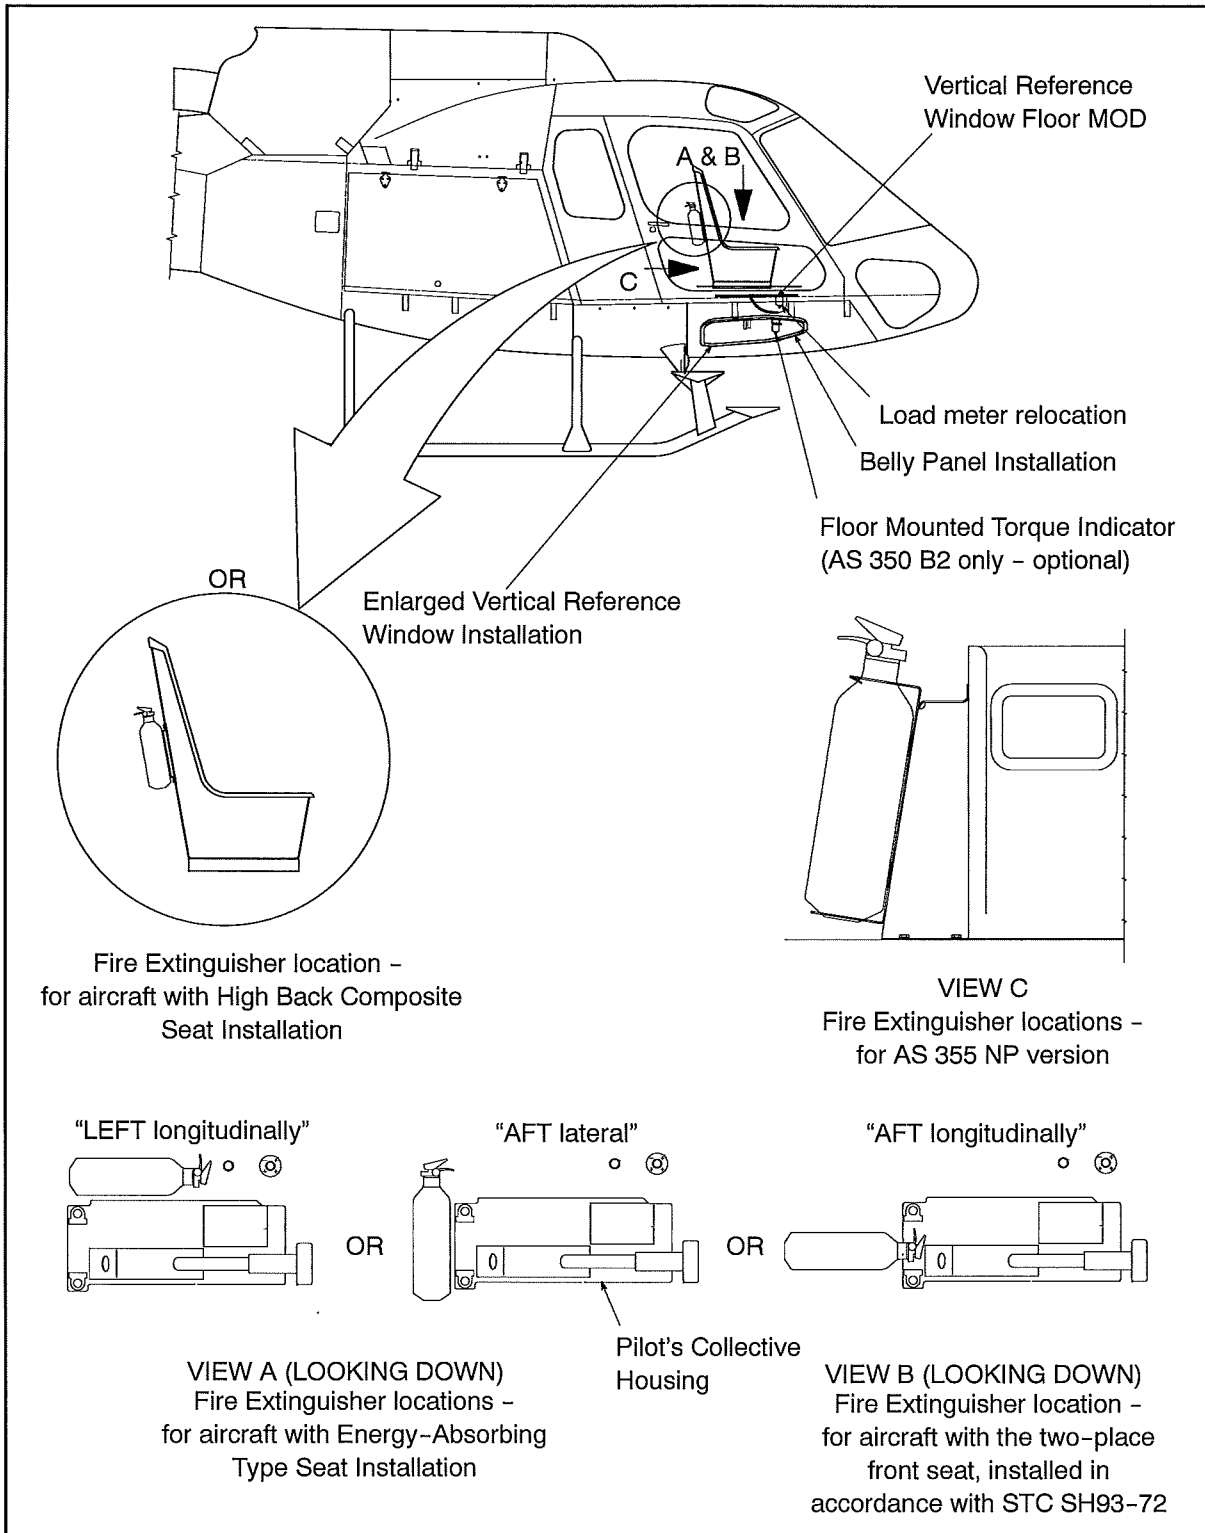

Figure 1 General Layout
- A. The Enlarged Vertical Reference Window is an optional window for the AS 350 / AS 355 mounted in the floor of the aircraft, just outboard of the pilot's seat, with a corresponding window in the belly panel. The enlarged window provides better pilot reference, as in long line operations. Refer to Figure 1.
- back of the pilot's seat (for aircraft with High Back Composite Seat Installation). Refer to Figure 1.
- "AFT laterally" or "LEFT longitudinally" of the pilot's collective housing (for aircraft with energy-absorbing type seat installation). Refer to Figure 1, VIEW A.
- "AFT longitudinally" of the pilot's collective housing (for aircraft with the two-place front seat, installed in accordance with STC SH93-72). Refer to Figure 1, VIEW B.
- back of center console (for aircraft with energy-absorbing type seat installation and extended center console, AS 355 NP version). Refer to Figure 1, VIEW C.